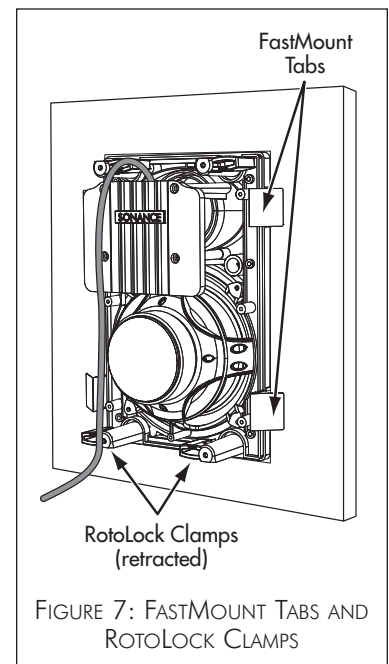

FIGURE 7: FASTMOUNT TABS AND ROTOLOCK CLAMPS
- The FastMount tabs will prevent the speaker from falling out of the mounting hole, allowing you to let go of the speaker to pick-up tools or other items (*Figure 7*).